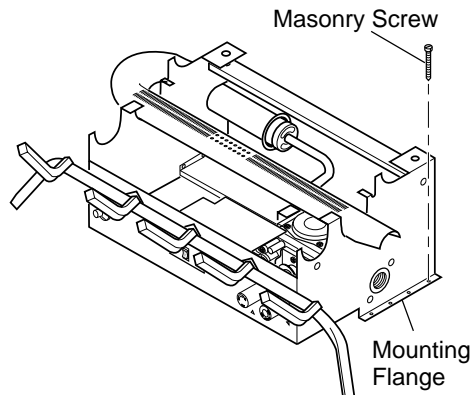

Figure 12 - Attaching Base Assembly to Fireplace Floor
- Mark screw locations through one hole on each side of the mounting bracket (see Figure 12). If installing in a brick-bottom fireplace, mark screw locations in mortar joint of bricks.